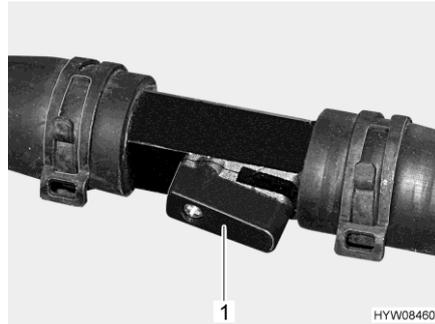

Fig. 172 Stopcock (open)
- Set the lever (Fig. 172,1) of the stopcock parallel to the pipe (Fig. 172). The wider the stopcock is opened, the higher is the heat output.
- Set the lever (Fig. 172,1) of the stopcock at right angles to the pipe. Heat is circulated by the bypass line.